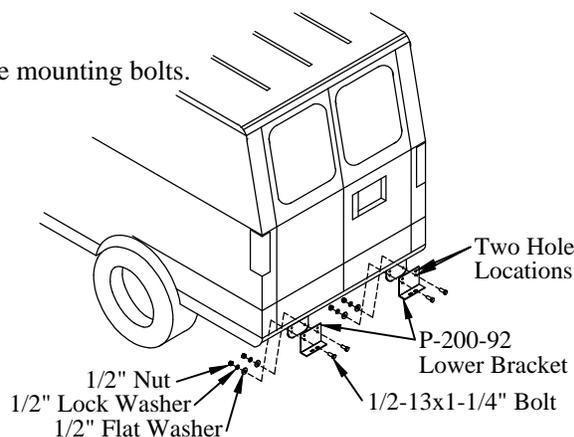

Figure 2: P-200-92 lower bracket location.
4. **Select** the set of holes that position the bracket approximately 11-1/4" below the bottom of the van doors (Figure 2).
5. **Attach** each P-200-92 bracket to the van frame with (2) 1/2"x1-1/4" bolts, (2) 1/2" flat washers, (2) 1/2" lock washers, and (2) 1/2" nuts (Figure 2).